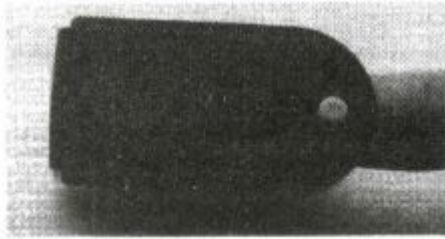

Figure 5 Put finger in position
2. Open the clip as per fig. 5
- Carefully align the finger as shown in fig. 5